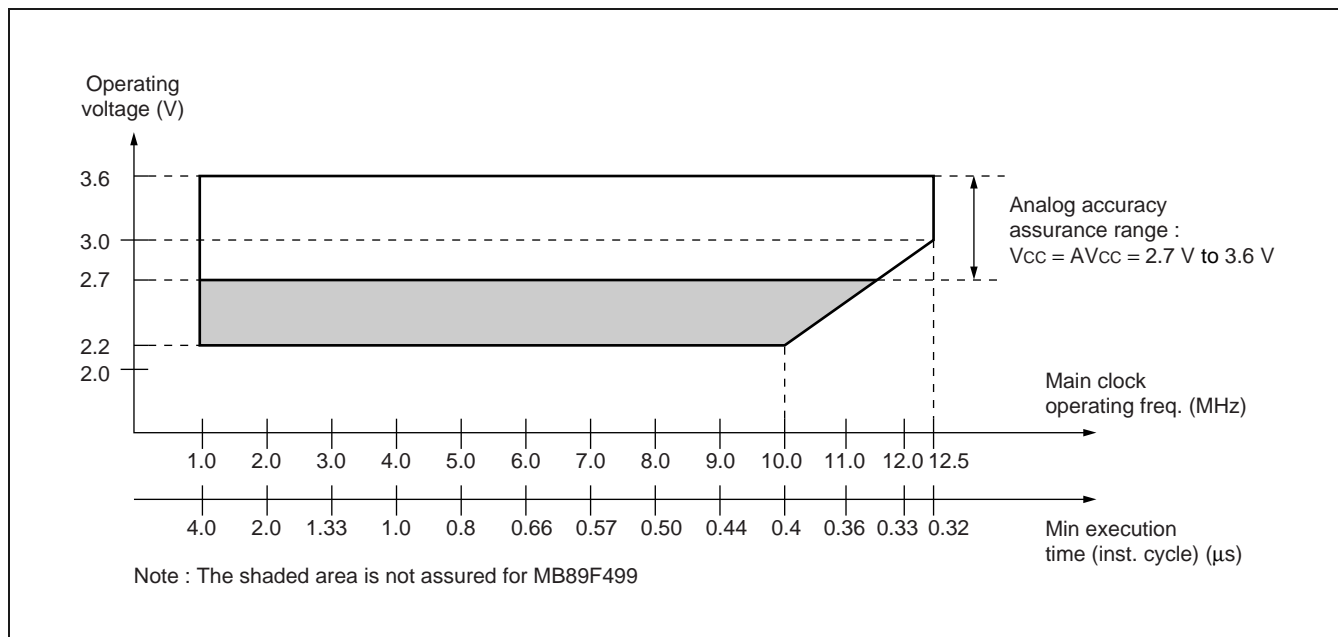

Figure1 Operating Voltage vs. Main Clock Operating Frequency (MB89F499/498)
* : These values depend on the operating conditions and the analog assurance range. See Figure 1, 2 and "5. A/D Converter Electrical Characteristics."
Figure 1 and 2 indicate the operating frequency of the external oscillator at an instruction cycle of $4/F_{CH}$.
Since the operating voltage range is dependent on the instruction cycle, see figure 1 and 2 if the operating speed is switched using a gear.